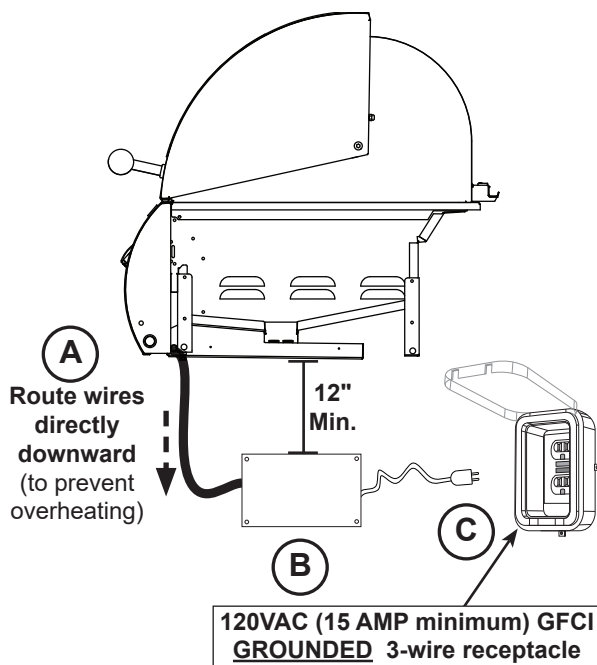

Fig. 26-1 Electrical installation
1. Route the wire harness extension below the control panel and directly downward. This will prevent overheating. **DO NOT** route the wire extension below the grill. See Fig. 26-1, A.
2. Mount the power supply box to the inside of the enclosure using appropriate hardware for your enclosure. It **MUST** be located at least 12 inches below the bottom of the unit. See Fig. 26-1, B.
3. Connect the cord coming from the power supply to a **120VAC (15 AMP minimum) GFCI GROUNDED 3-wire receptacle** (see Fig. 26-1, C). The GFCI receptacle must be a WEATHER-PROOF IN-USE COVERED RECEPTACLE.